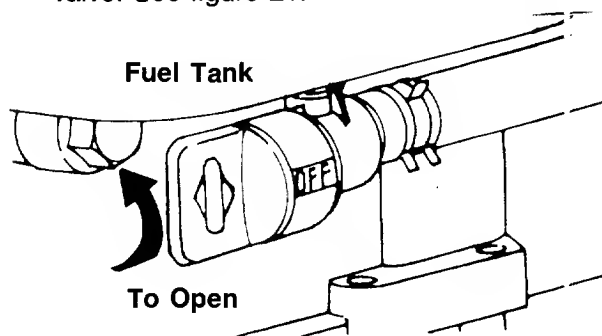

FIGURE 21.—Models 466B and 476B
2. **Models 466B and 476B only:** Open fuel shut-off valve. See figure 21.